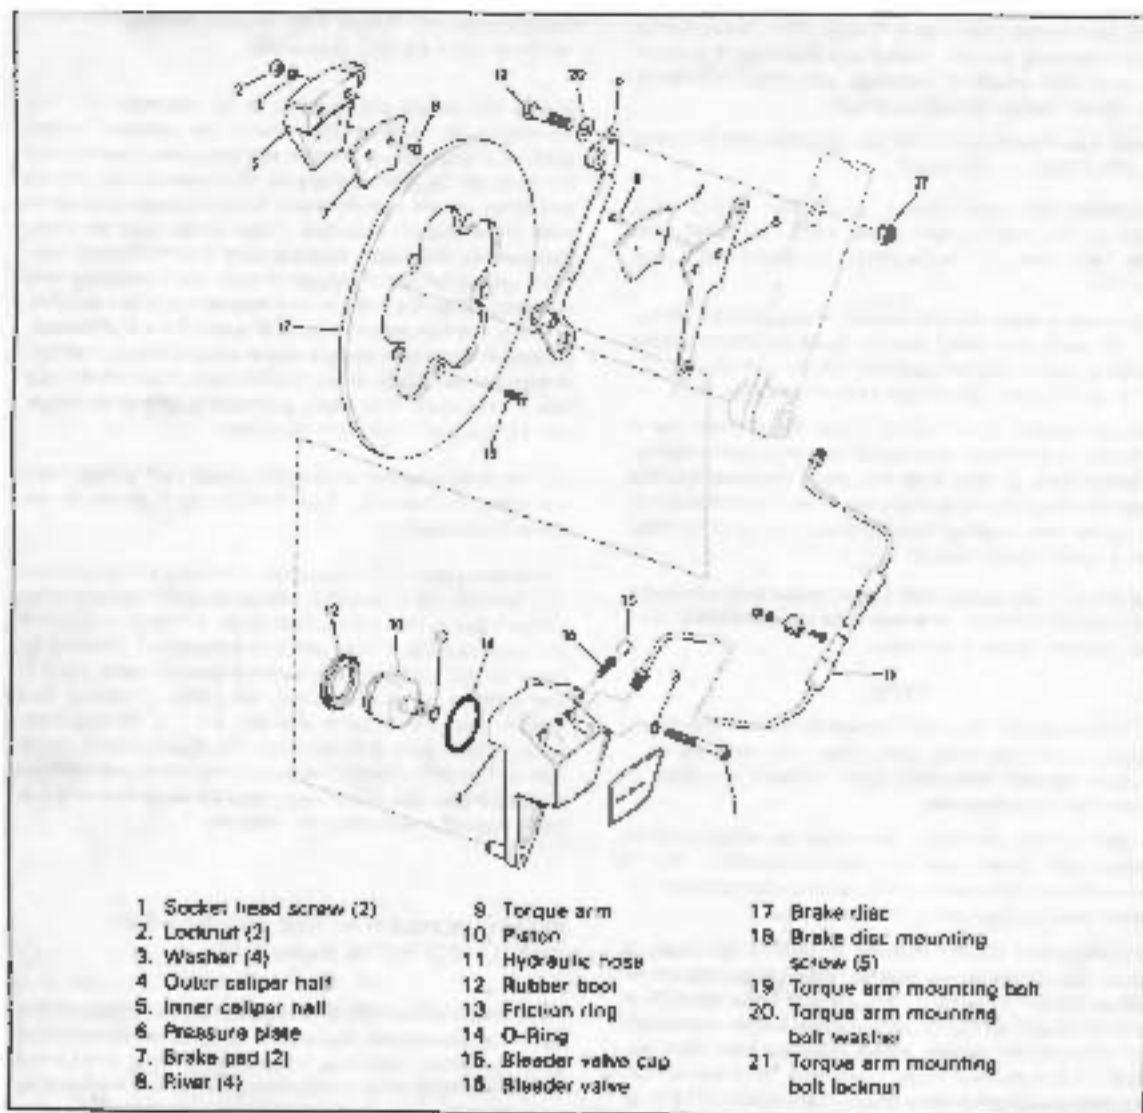
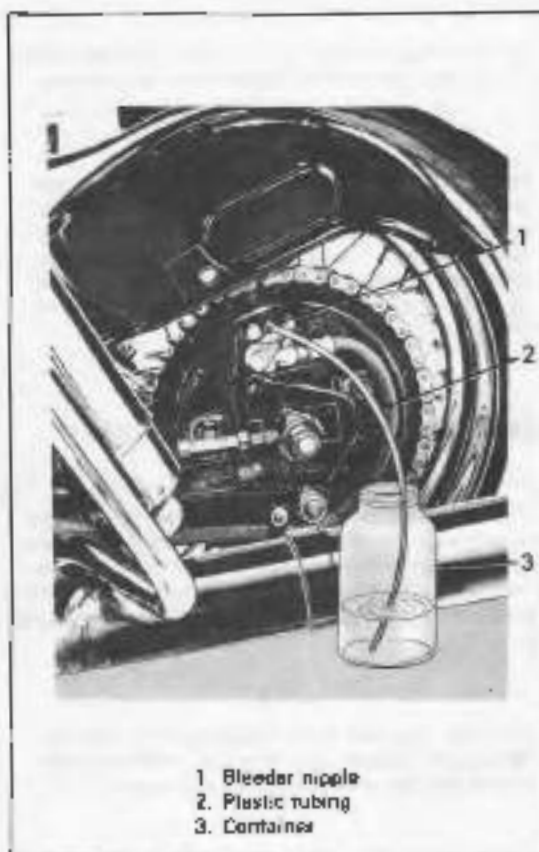

Figure 2-66. Front Disc brake, 1974 to 1977 FX/FXE
Figure 2-89. Bleeding Hydraulic Brake System
#### DISASSEMBLING FRONT DISC BRAKE CALIPER - 1974 TO 1977 FX/FXE (Fig. 2-66)
#### REASSEMBLING FRONT DISC BRAKE CALIPER - 1974 TO 1977 FX/FXE (Figure 2-66)
1. After servicing hydraulic brake system where any hydraulic line or cylinder is opened, it is necessary to bleed the system to expel all air. See Figure 2-89.
2. Slip a length of appropriate size plastic tubing (2) over wheel cylinder bleeder nipple (1, Figure 2-89, 16, Figure 2-65 and 15, Figure 2-66). Immerse the other end in any container (3) containing brake fluid.